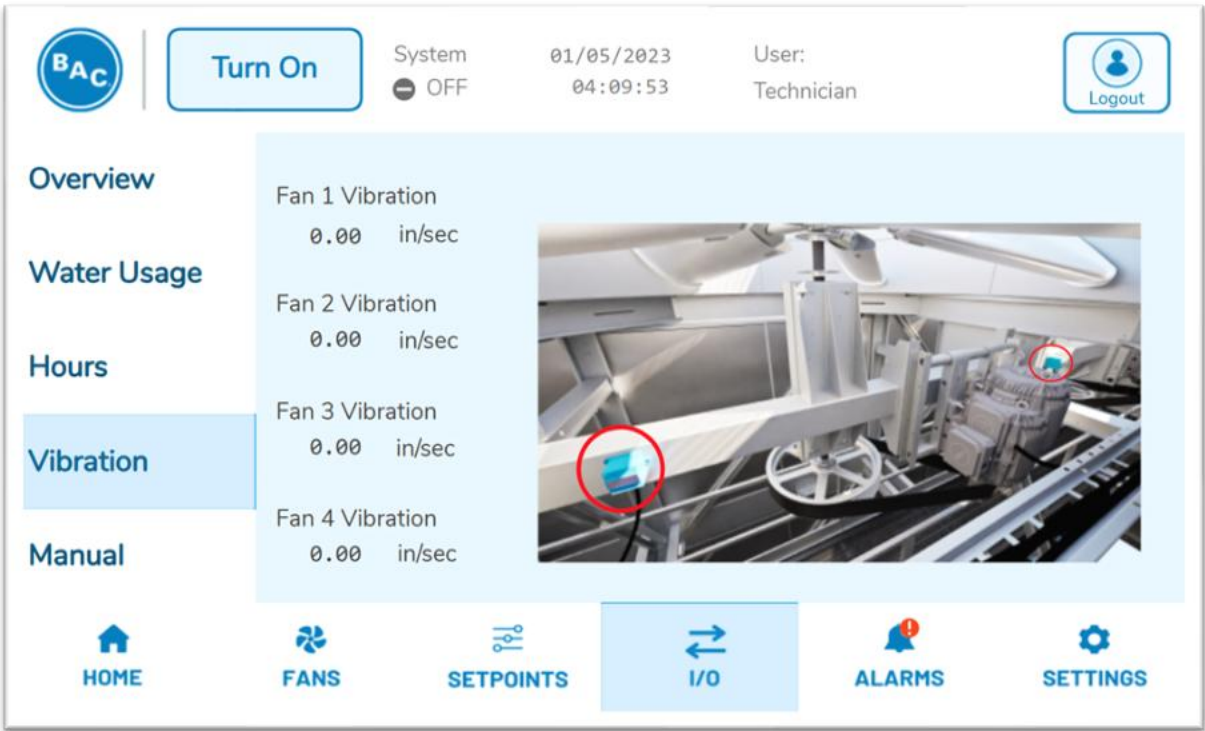

Figure 18. Vibration Parameters
**Vibration** – This screen in **Figure 18** shows each individual fan’s vibration as detected by the electronic vibration cutout switch (EVCOS).